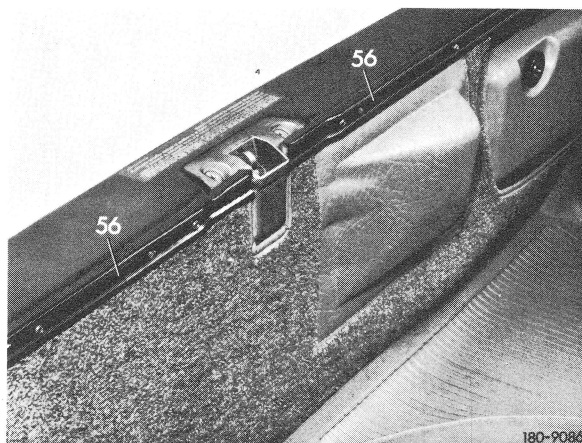

Fig. 1
1 Unscrew all sheet-metal screws from both fastening rails (56) and remove fastening rails (Fig. 1).
15 Glue-on carpet lining and screw down both fastening rails (56) by means of oval head screws (Fig. 1).